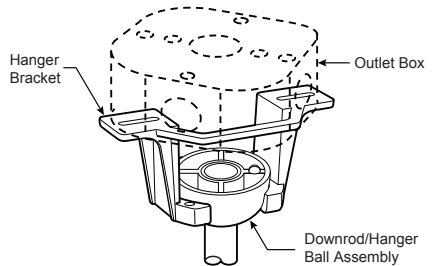

Figure 4
4. Loosen the two set screws and locking nuts in the downrod support of the motor assembly. Route the brown, blue, red, gray and yellow wires through the downrod. (Figure 4)
- Carefully lift the fan and seat the downrod/hanger ball assembly onto the hanger bracket that was just attached to the outlet box. Be sure the groove in the ball is lined up with tab on the hanger bracket. (Figure 4) This fan is intended for standard and angled mounting options only. Closemount and flushmount options are not available. For angled ceilings, note the angle can be no more than 19°.
3. Connect wires using connectors as shown in Figure 4.
4. To make fan operational, install two 3V batteries (included) in hand-held remote transmitter, with fan power off. Then, follow the remote code setting process. If not used for long periods of time, remove battery to prevent damage to transmitter. Store the remote away from excessive heat or humidity. (Figure 4)